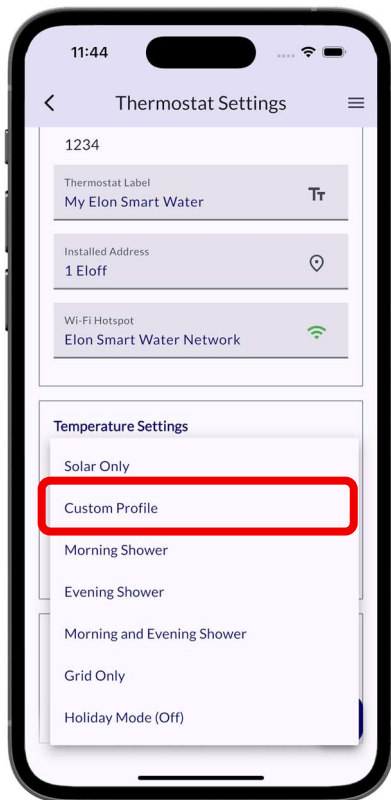

Fig 4.19 Select “Custom Profile”
- If you want to set your own times for when the water should be heated with grid power, select the **"Custom Profile"** heating profile (see Figure 4.19).